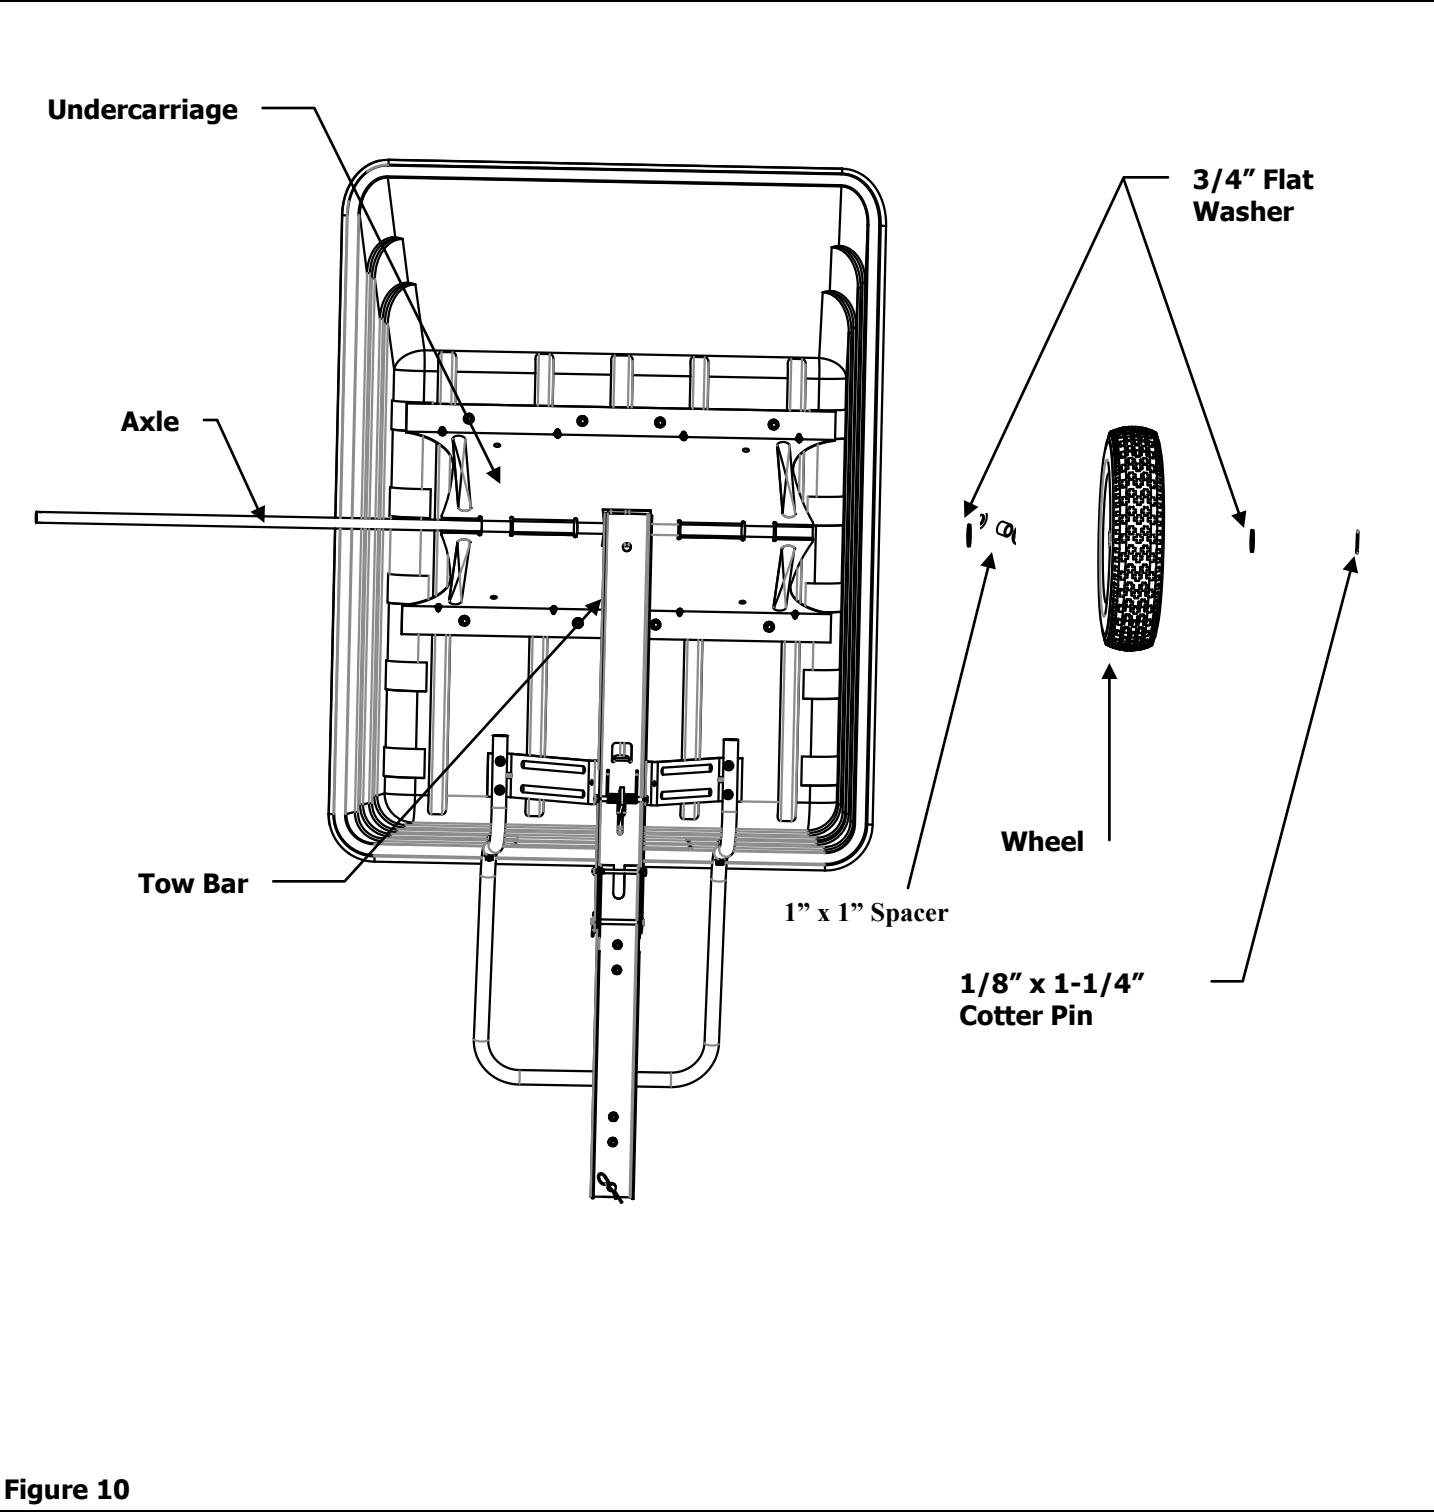

Figure 10
- 11. Slide Axle through Undercarriage and Tow Bar. Center Axle, place one 3/4 inch Flat Washer, one 1 inch x 1 inch Spacer onto the Axle followed by Wheel, place another 3/4 inch Flat Washer onto the Axle and secure with a 1/8 inch x 1-1/4 inch Cotter Pin. Repeat process on other side. See Figure 10.